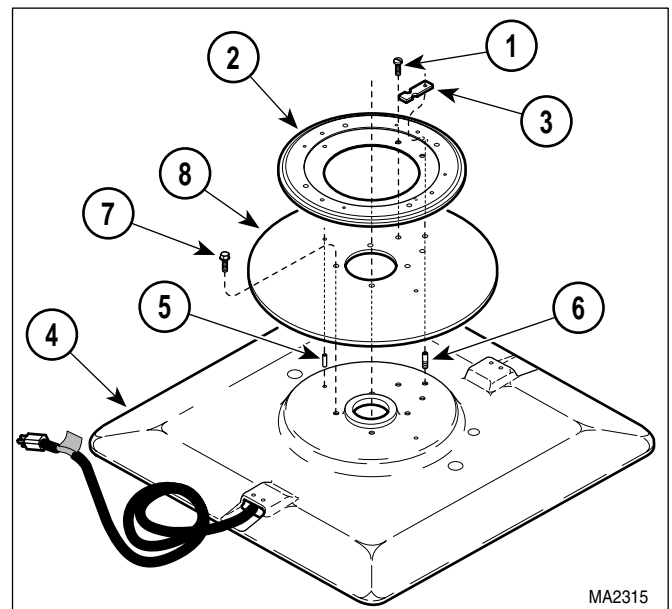

Figure 4-40. Table Rotation Bearing Removal / Installation
- (19) Remove rotational base (3), thin bearing washer (9), thrust bearing (10), and thick bearing washer (11) from platform base weldment (6).
- (20) Remove two screws (1, Figure 4-40).
- (21) Remove table rotation bearing (2) and rotation stop plate (3) from rotational base (4), by pulling table rotation bearing straight up and off of two groove pins (5).
- (22) If damaged, remove stop plate post (6) from rotational base (4).
- (1) If removed, install groove pins (5, Figure 4-40) in rotational base (4).
- (2) If removed, install stop disc (8) on rotational base (4) and secure with four screws (7).
- (3) If removed, coat threads of stop plate post (6) with removeable threadlocking adhesive (Loctite 242) Install stop plate post (6) in rotational base (4).
- (4) Coat bearings of table rotation bearing (2) with high temperature grease.